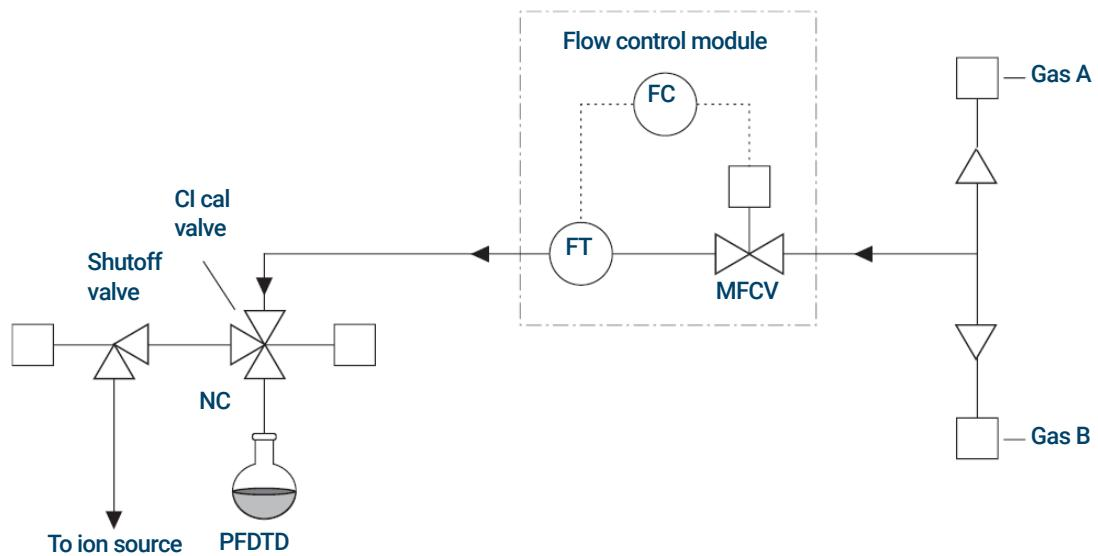

Figure 6. Schematic of CI flow control
- 1 See Figure 6, “Schematic of CI flow control,” on page 54 and Table 4, “Flow module valve state diagram,” on page 54.
- Close valves starting at the gas select valves (Reagent gas and Carrier gas purge), then close the shutoff valve. See Figure 6, “Schematic of CI flow control,” on page 54 and Table 4, “Flow module valve state diagram,” on page 54.